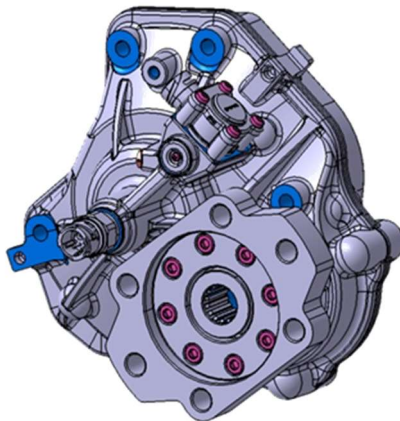

Figure 3: PTO drive assembly shown with SAE-B 2 or 4 bolt configuration.
- The Rear PTO drive assembly mounting flange offers SAE-B mounting for 2 or 4 bolt configurations and an SAE B-B 15 tooth spline as shown in Figure 3 above.